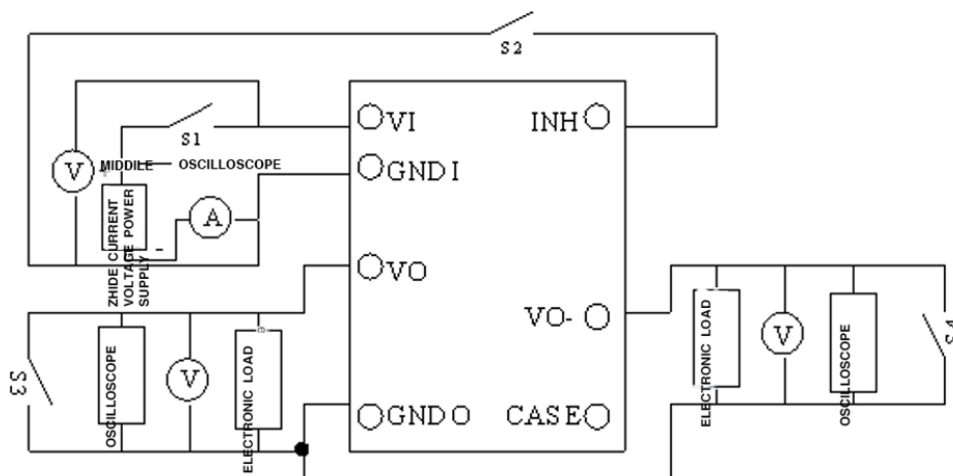

Figure A.1. Connection diagram of the test fixture
- Set switch S1 as shown in Figure A.1 to the ON position to apply the specified DC input voltage to the DUT input terminal;
- b) Set switch S1 as shown in Figure A.1 to the ON position, so that the specified DC input voltage of 28V is applied to the input terminal of DUT;
- e) Calculate the voltage regulation degree according to formula (1):
- Set switch S1 as shown in Figure A.1 to the ON position;
- Calculate the current regulation according to formula (2):
- Set switch S1 to the ON position and S2~S4 to the OFF position as shown in Figure A.1. The input current at this time is the input current when the inhibit terminal is open.
- d) Set switches S1 and S2 to the ON position and S3 to the OFF position as shown in Figure A.1. The input current at this time is the input current when the inhibit terminal is connected to the input ground terminal.
- Set switch S1 to the ON position and switches S2 to S4 to the OFF position as shown in Figure A.1;
A.3.10. Short -circuit power consumption (PD)
A.3.10.1. Test conditions: Connect the external circuit as shown in Figure A.1.
- S1 as shown in Figure A.1 to the ON position;
A.3.12.1. Test Conditions: Connect the External Circuit as Shown in Figure A.1.
- Connect the output to a capacitor of the specified capacitance value and set the switch S1 shown in Figure A.1 to the ON position;